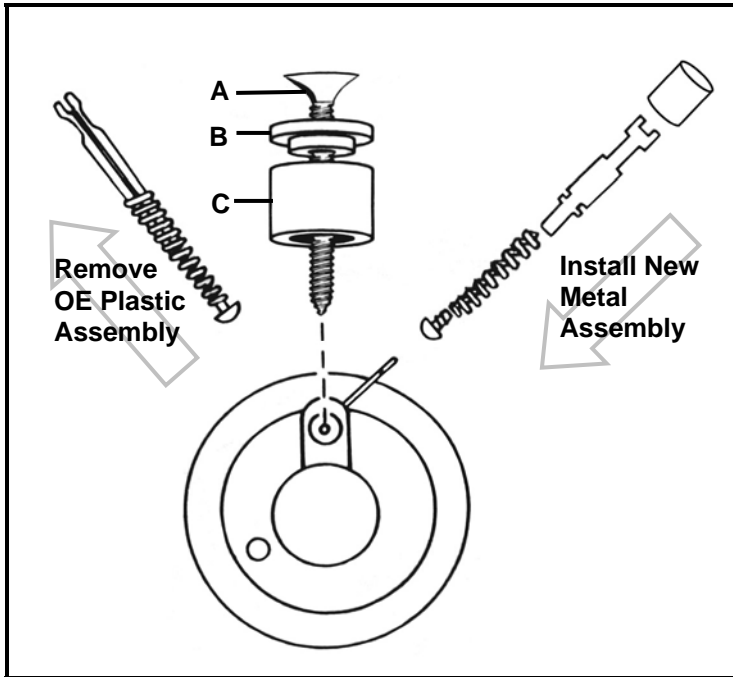

Figure 4
2. **Pump Modifications:** See **Figure 4**. Remove the orifice cup plug in rear of pump stator shaft using the tool supplied; sheet metal screw [A], shoulder washer [B], bushing [C]. Assemble tool as shown and position over orifice cup plug. Turn screw clockwise to drive the point of the screw into orifice in plug and continue turning until plug comes out. Remove plastic drain back valve, guide, spring and discard. The plastic may be melted so be sure you get it all out and blow both ways with an air gun.